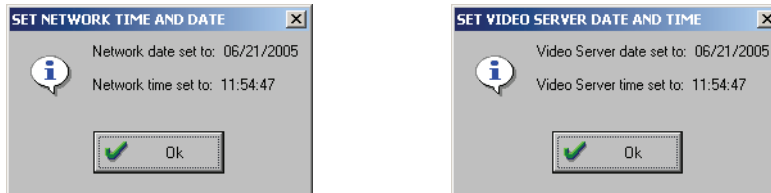

Figure 15-8: Network and Video Server Date and Time Synchronization Confirmation Windows
1. Click on the  button to sync the clocks. A Two confirmation windows will appear (see Figure 15-8).